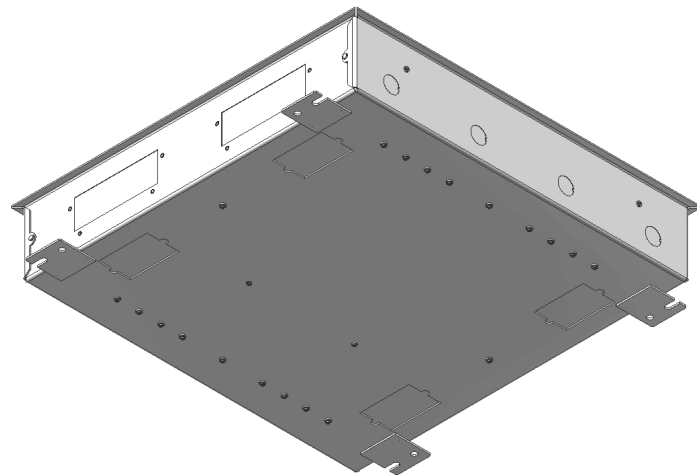

Figure 1
Step 1 – Place the *telecom ceiling enclosure assembly* on the work surface with the door facing up and keyed doorway unlocked. If applicable, remove fiber ingress knockouts (Figure 1) located on the outside edge and back of the box (near key lock) and install CCH style fiber optic adapter panel according to the manufacturer's specifications.